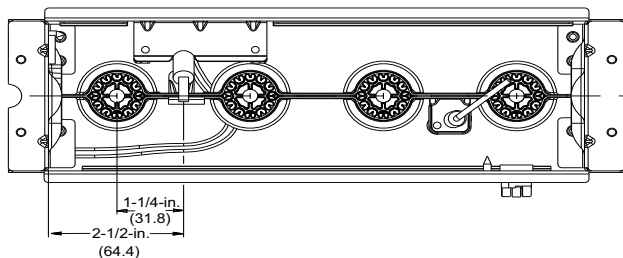
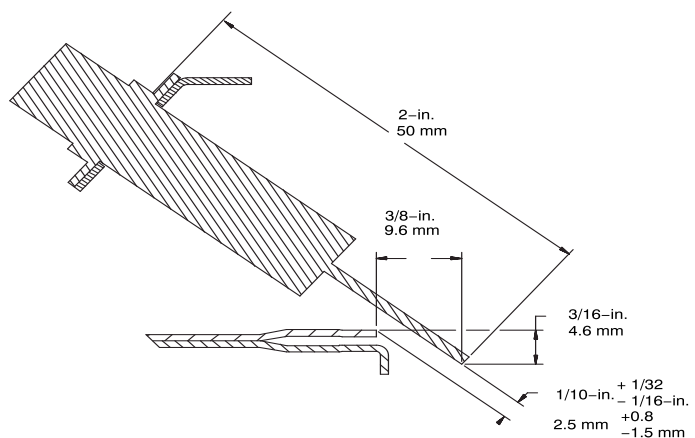

Fig. 69 – Igniter Position - Top View
Fig. 70 – Igniter Position - Side View
8. Check the igniter alignment. See Fig. 68, Fig. 69, and Fig. 70.
The igniter does **NOT** require annual inspection. Check igniter resistance before removal. Refer to Fig. 68, Fig. 69, and Fig. 70.